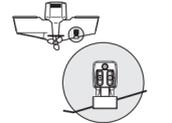

Figure 3
- Another consideration is the angle of deadrise. The transducer, when mounted, should point straight down. The design of the transducer will allow a deadrise of 15 degrees and remain pointed straight down. If the deadrise is greater than about 15 degrees it will be necessary to angle the transducer slightly (Figure 3). While this does not significantly degrade performance, you must keep in mind that the area you are viewing on-screen may be somewhat to one side of the boat.